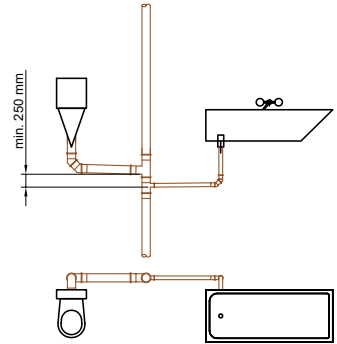
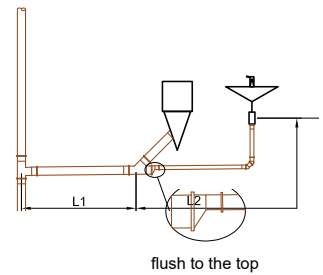

Figure 6
Figure 7
- In WC systems (Fig. 6) or various drainage objects (e.g. WC and shower; Fig. 7), arrange a double branch with a maximum internal angle of 135° .